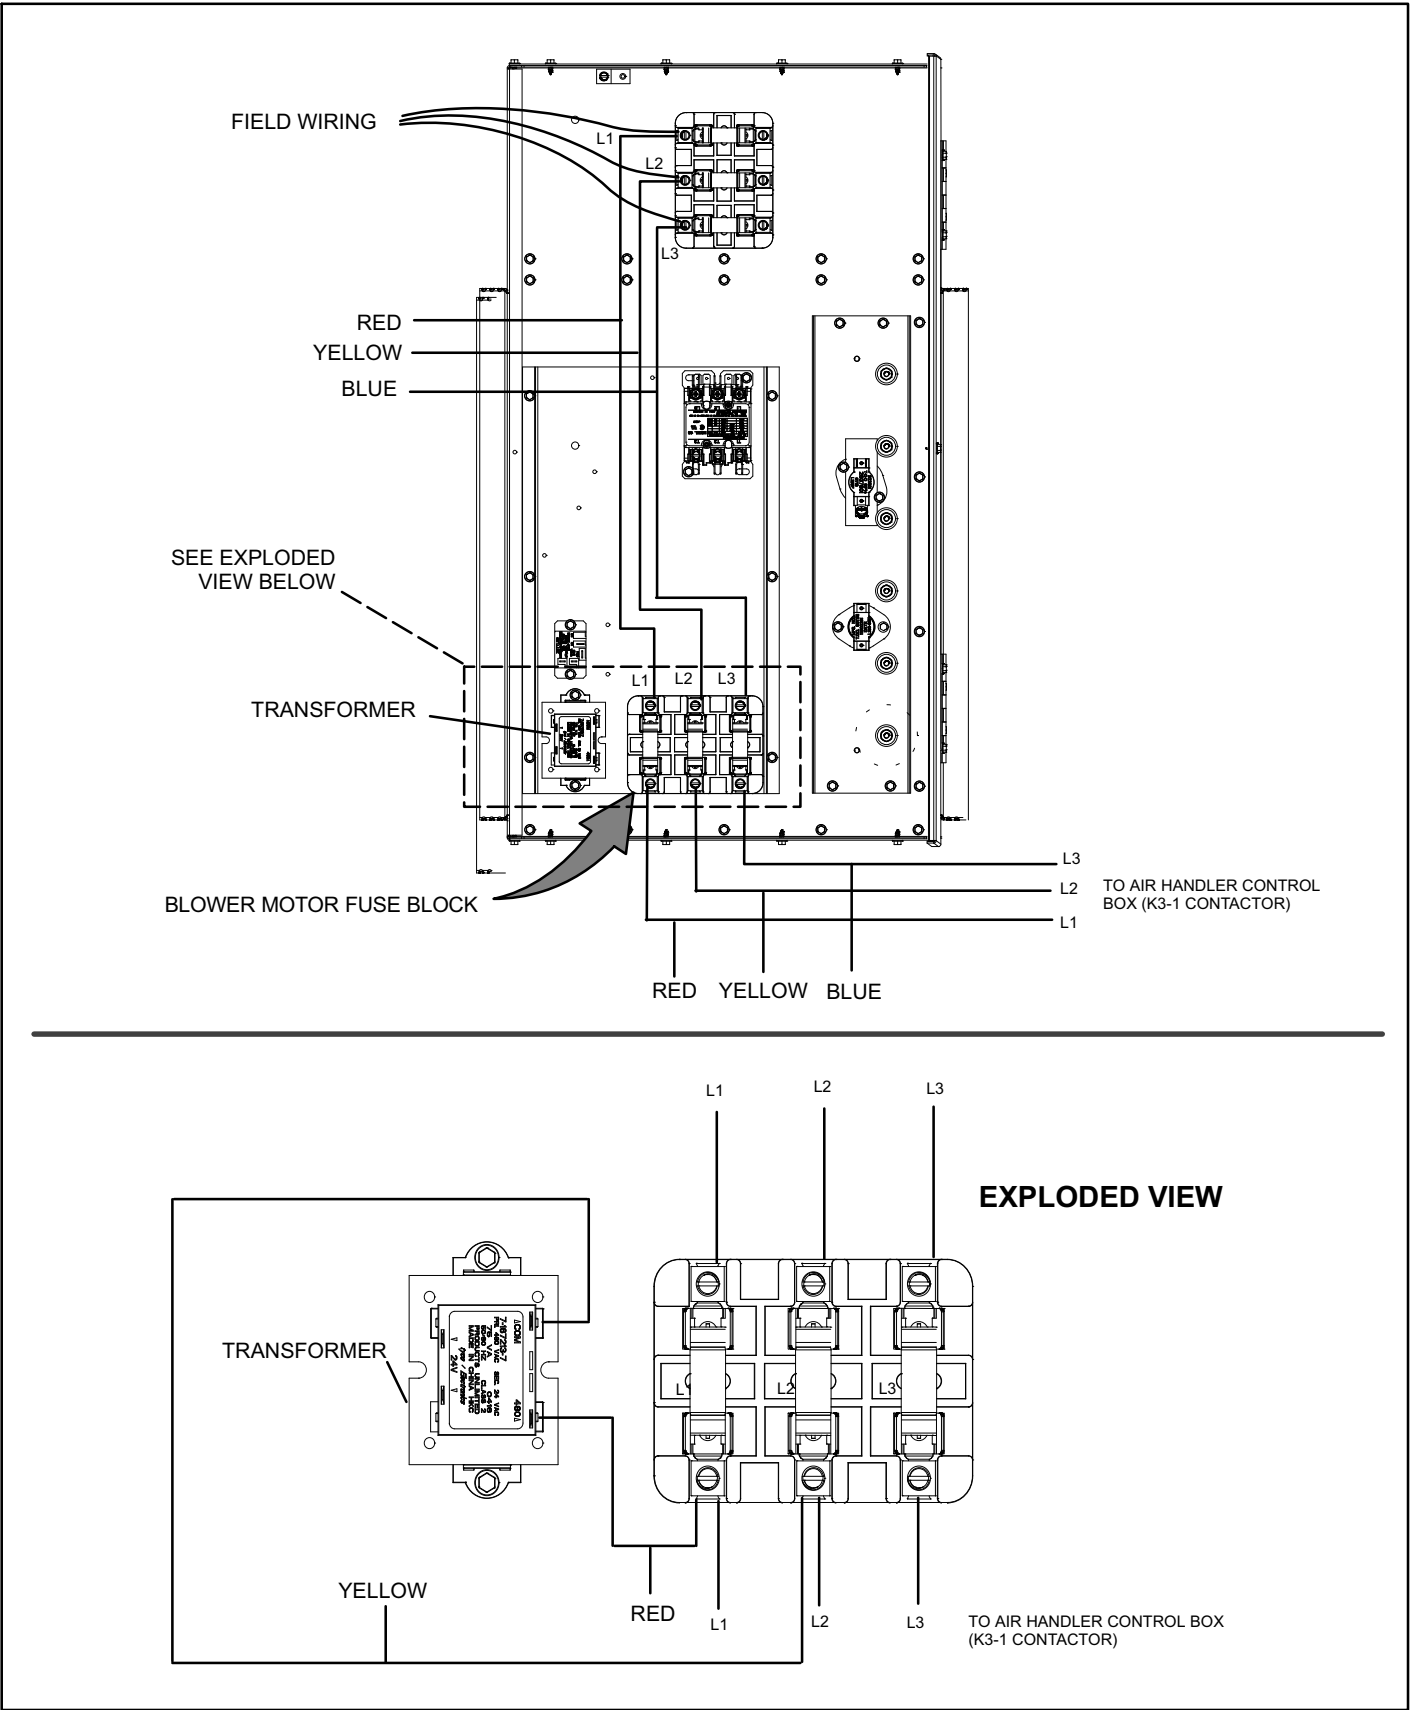

Figure 1. T3EH Control Panel
This instruction can be used to replace the factory installed blower motor fuse block (see Figure 1) on the T3EH Electric 460V and 575V Heater Series.
3. Remove L1 (red), L2 (yellow) and L3 (blue) motor wires (see figure 1).
4. Remove L1 (red) and L2 (yellow) line side transformer wires from motor fuse block (see figure 1).
5. Remove three (3) Class T fuses from motor fuse block and discard or restock.